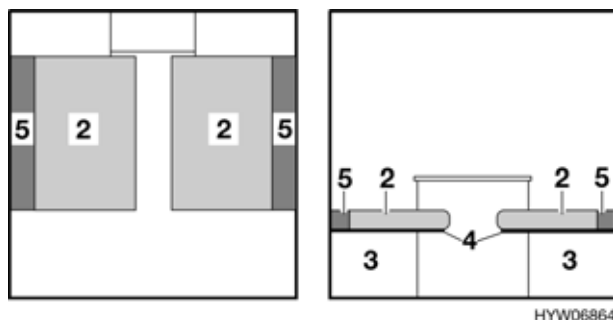

Fig. 92 After conversion into single beds
- For widening of bed pull out slatted frame (Fig. 92,4) at the left and right bedding box.
- Insert the additional cushion (Fig. 92,5) between the seat cushion (Fig. 92,2) and the exterior wall.